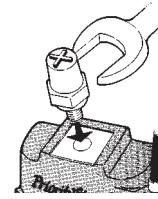

Figure 1
1. Using a 7/8" wrench, tighten firmly Post Adaptor (item ②), into top of PriorityStart! [Fig. 1] (see note 4).